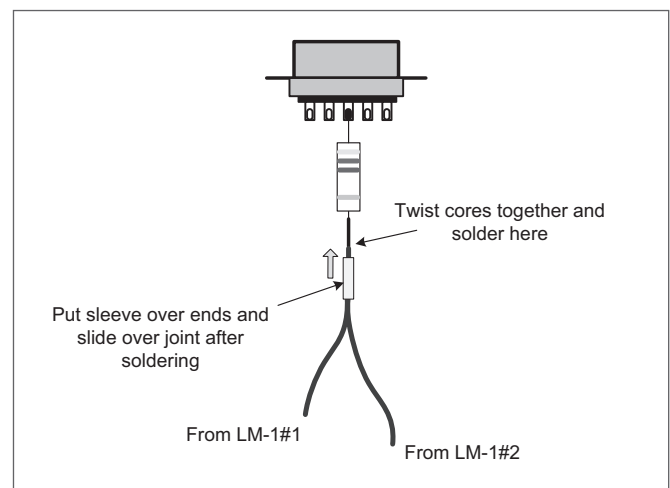

Fig. 5:
8. The remaining cable cores need to be soldered to the “free” ends of the resistors and diodes. Cut the free ends back to 5 mm or so. The cores from LM-1 terminals 7 should each be soldered to one of the two resistors on Dsub pin 3. Cut the cores shorter than those going directly to Dsub pins, twist the ends together and use a silicon sleeve as described above. Push the sleeve down over the soldered joint so that no conductor is visible. (See Fig. 5)